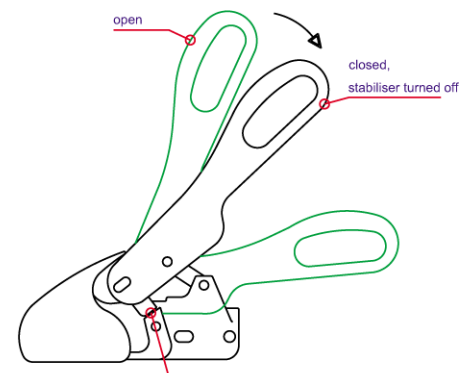

Fig. 4: coupling
The opened ball coupling is placed on the coupling ball of the towing vehicle (Fig.4).
The support load and possible additional loading of the drawbar serves to cause the ball coupling to close automatically and the side securing lugs (1) are parallel in relation to the securing surfaces on the housing (Fig. 4).
If not used for any lengthy period of time, the trailer should be parked with the ball coupling closed. For this purpose, lift up the open operating lever (Fig. 4) and at the same time pull the ball socket (movable element with friction pad – Fig. 8) forward or press the **safety ball** into the ball space and slowly close the operating lever.